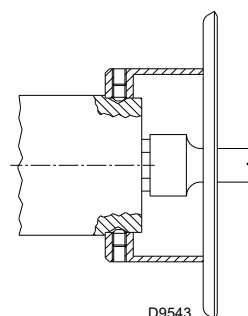

Fig. 20
- remove the nozzle 1)(Fig. 20) using a wheel spanner;
- install the nozzle 1)(Fig. 20);